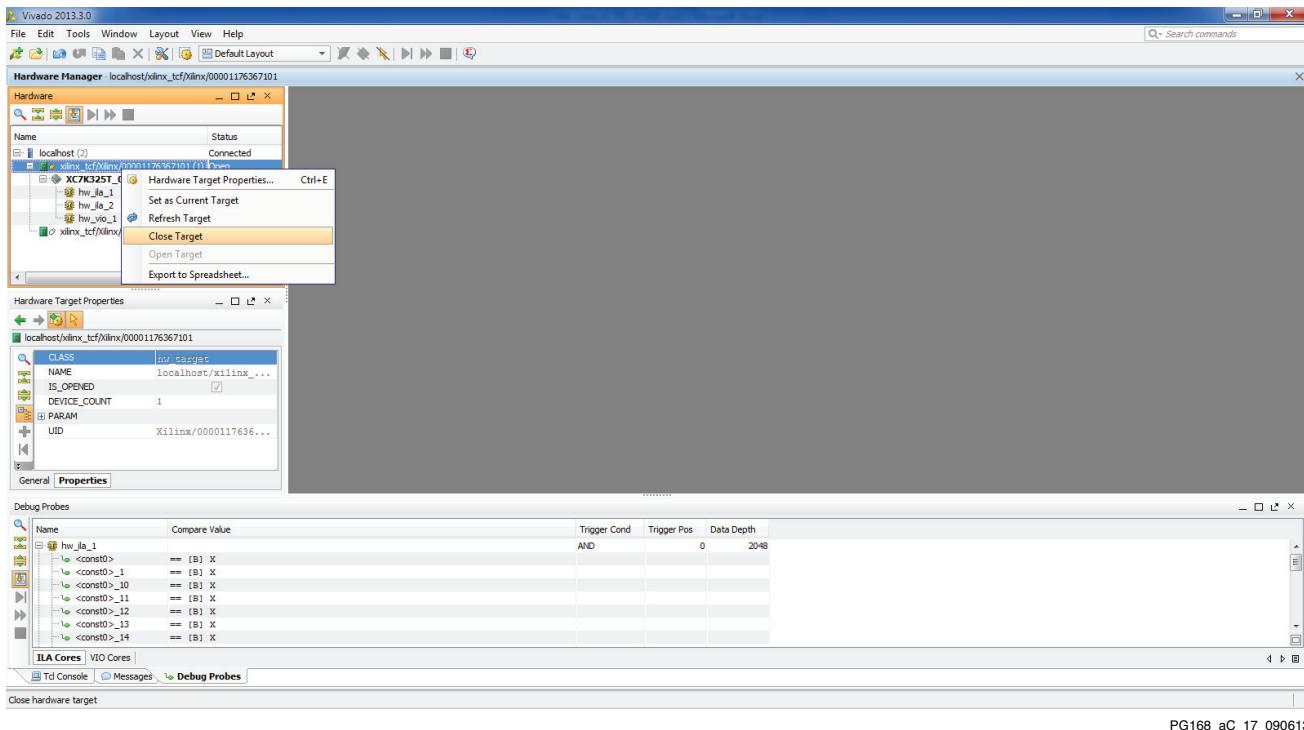

Figure C-17: Close Target
20. When programming is finished on board 1, right-click the programmed device and select **Close Target**, as shown in Figure C-17.